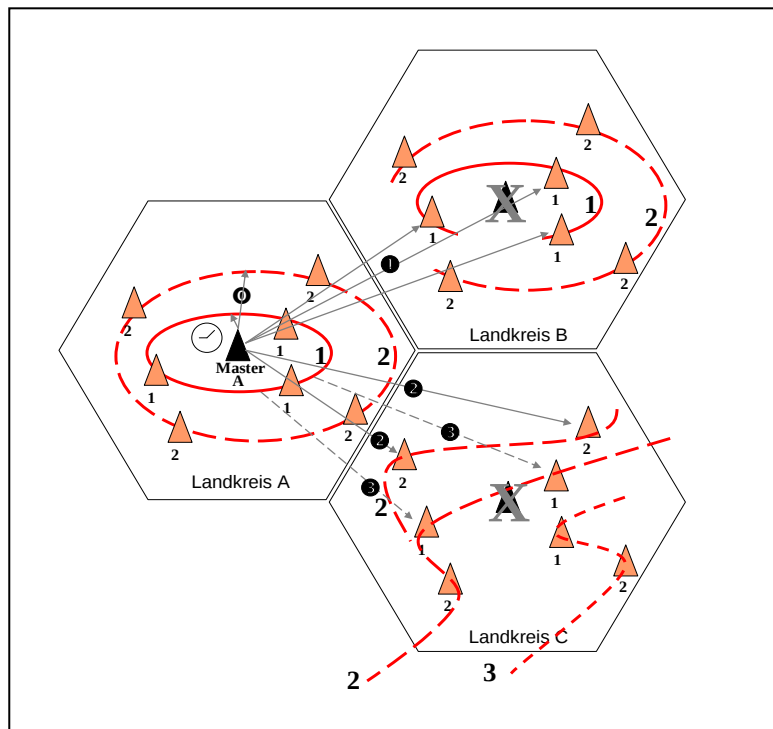

Fig. 4-3: Emergency operation in a Multimaster wave network
Assumption as shown in figure 4-3 below: The Master-ITC's in rural district B und C cannot transmit time synchronised (link failure, time reference fault). The the message from the network alarm controller only reaches the Master ITC in rural district A. This master ITC transmits the alarm message with emergency information over the ring structure to its Slave ITC's (0). The Slave-ITC's in the other rural districts B and C, which border rural district A, receive the signals via rural district A's Slave ITC's (1+2+3), as if the station were in another ring. These Slave ITC's then retransmit the messages.